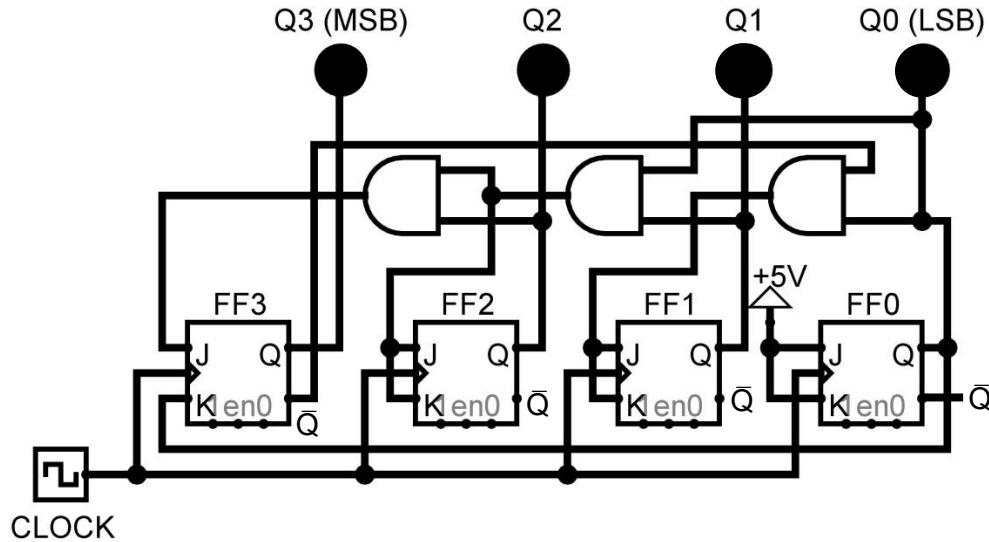

Figure 2(c)
- (c) Figure 2(c) shows a 4-bit synchronous counter, which is designed to perform a specific counting sequence.
- (i) Provide the excitation expressions for each of the flip-flops in Figure 2(c). (4 marks)